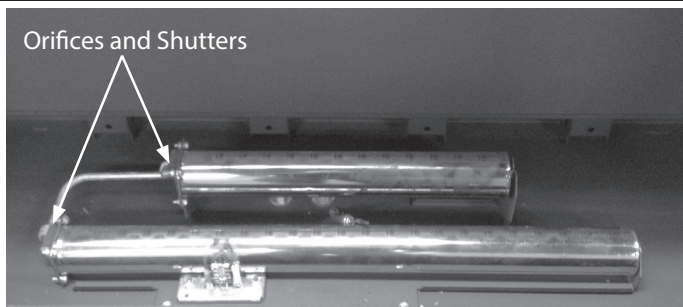

Figure 1.
**Step 3:** Remove hearth (bottom) panel by lifting it up and out. Figure 1 shows panel removed.